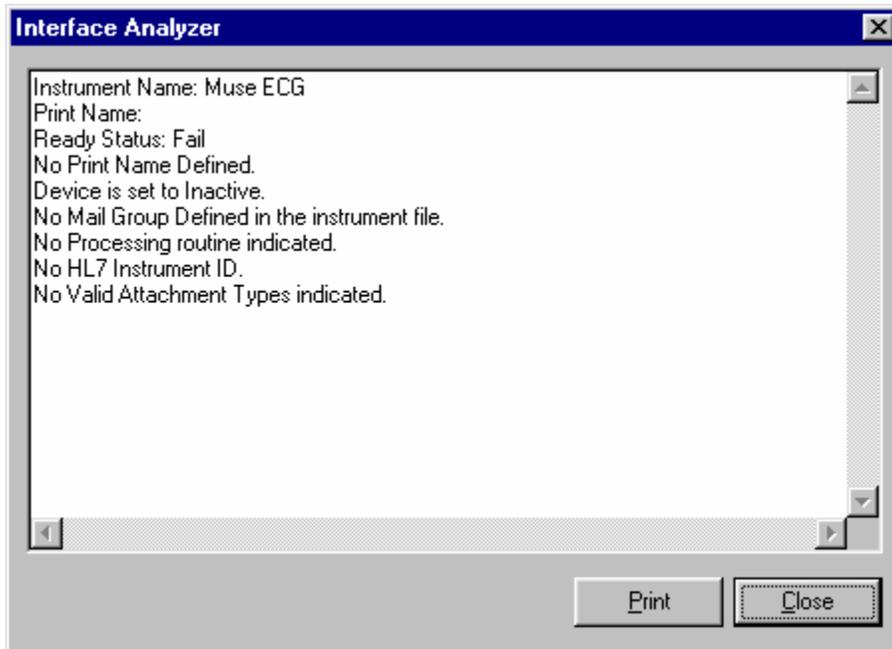

Fig. 6-5
2. Select the instrument that you want to analyze. Click **Analyze**. A window similar to Fig. 6-5 is displayed. This window indicates the ready status of the instrument and lists other information as well.